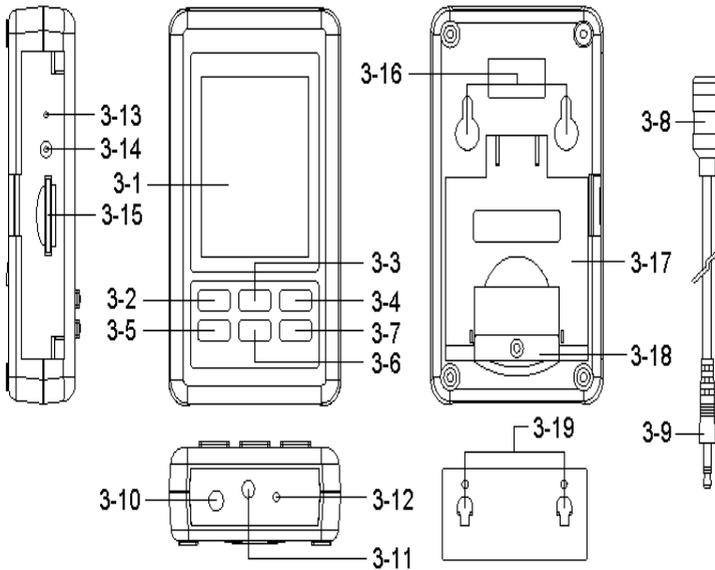

Fig. 1
- 1) Power ON the meter by pressing and holding the " Power Button " (3-2, Fig. 1)for at least 1.5 seconds, the meter's default function is " A"(frequency weighting) , " Fast"(time weighting) " Auto range ". The LCD display will show the Symbol " A, FAST , xx.x dB , 0 " .
- 3) According to various measuring sound source, select the Time Weighting (Fast or Slow) by pressing " ENTER Button " (3-7 , Fig. 1).
- 1) In " SPL" mode to select the " **Dose** " mode by pressing and holding the " RUN button" (3-4 Fig 1) into the DOSE mode .
- 4) According to various measuring sound source, select the Time Weighting (Fast or Slow) by pressing the "ENTER Button " (3-7, Fig. 1).
During the SPL measurement, press the " ▲ Button " (3-3, Fig. 1) once will hold the measured value & the LCD will display a " HOLD " symbol. Press the " Hold Button " once again will leave the data hold function.
1) The data record function records the maximum and minimum readings. Press the " RUN Button " (3-4, Fig.1) once to start the Data Record function and display is shown the " REC " symbol .
- a) Press the " RUN Button " (3-4, Fig. 1) once, the " REC MAX " symbol along with the maximum value will appear on the display. Press the " RUN Button" again the " REC MIN " symbol along with the minimum value will appear on the display. Press the " RUN Button" again will show the " REC " symbol only & execute the memory function continuously.
After power ON, the " LCD Backlight " will light automatically. During the measurement, press the " POWER Button " (3-2, Fig. 1) once will turn off the " LCD Backlight " .
Pressing and holding the " ENTER Button "(3-7, Fig. 1) once , display is shown " LOGGER " , the " LOGGER " will flashing at the same time the measuring data along the time information will be saved into the memory circuit(EEPROM). and the top right will record items.
During execute the Datalogger function , if press the " ENTER Button " (3-7, Fig. 1) once will pause the Datalogger function (stop to save the measuring data into the memory circuit temporality). In the same time the text of " LOGGER " will stop flashing.
If press the " ENTER Button " (3-7, Fig. 1) once again will execute the Datalogger again, the text of " LOGGER " will flashing .
Press the " ENTER Button "(3-7, Fig. 1) continuously at least two seconds, the " LOGGER " indicator will be disappeared and finish the Datalogger.
Prepare a " SD memory card " (1 GB to 16 GB, optional), insert the SD card into the " SD card socket " (3-15, Fig. 1). The front panel of the SD card should face against the down case.